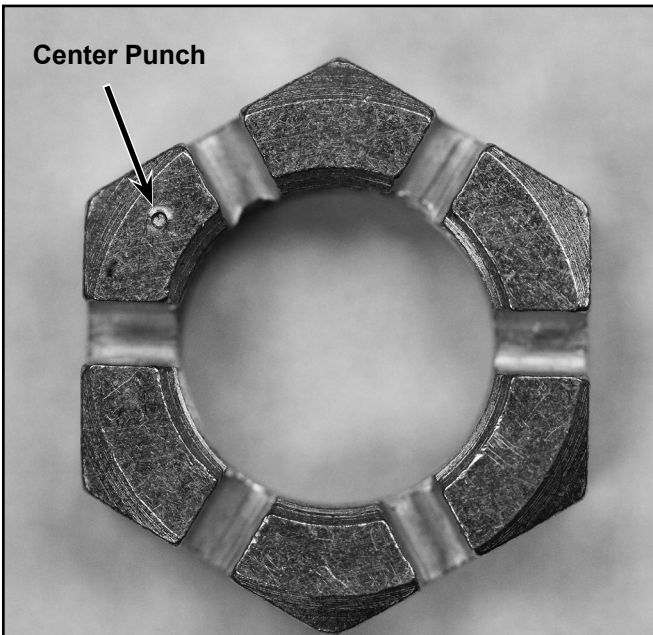

Figure 5 - Center-Punch Mark
- 1) Using an automatic center punch, punch the face of the hex-nut (1) so that it will be easily identified for future reference (Refer to Figure 5). Continue to 3.B.(8).